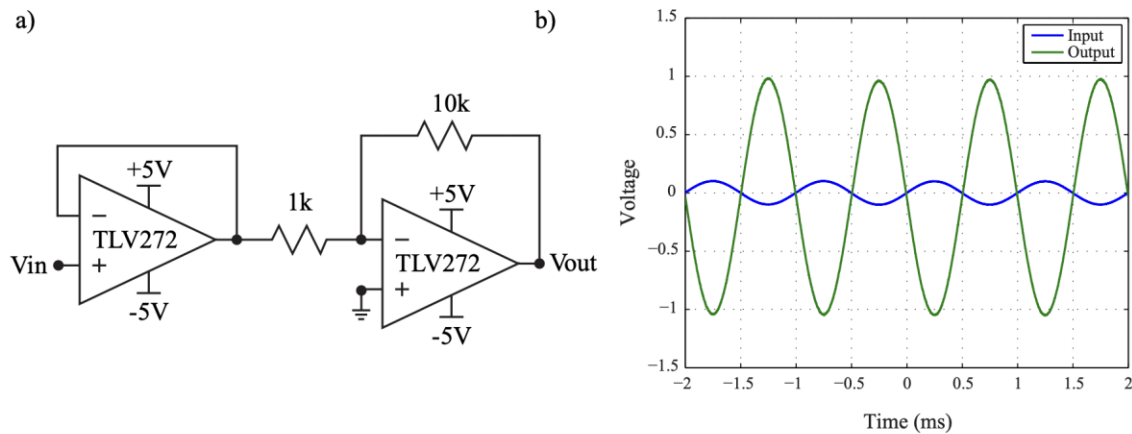

Figure 5.6: Schematic for the demo circuit, a voltage follower followed by an inverting amplifier with a gain of 10 (a) and the resulting output (b)
1. Using only one of the TLV272 op amp in your lab parts kit, build the circuit in Figure 5.6 (a) on a breadboard. Set the voltage supplies to ± 5 V and scope channel 1 to V_{in} and scope channel 2 to V_{out} . Configure the Wavegen to supply a 1 kHz sine wave with a 0.1 V amplitude. Your waveform should look like Figure 5.6 (b).
The demo circuit in Figure 5.6 consists of a voltage follower and an inverting amplifier with a gain of -10. The voltage follower ensures high input impedance and low output impedance, preventing loading while maintaining $V_{out} = V_{in}$.
This buffered signal then feeds into the inverting amplifier, where the gain is set by $V_{out} = -10V_{in}$, resulting in an amplified and inverted output. As shown in Figure 5.6 (b), a sinusoidal input produces a larger, inverted sinusoid.